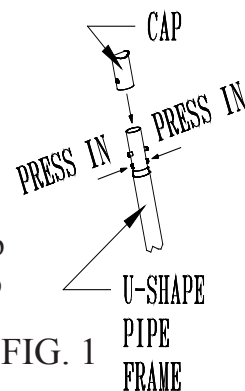

FIG. 1
2. Locate the four metal pipe (Horizontal Beams) for the left and right support frame sections of the pool. Also locate the four U-Shape Pipe frames. Each end of the U-Shape pipe will have a Cap to be installed. Locate the 8 Pipe Caps and install, push the buttons in as you insert the Cap onto the pipe end. Look through the holes in the Cap as you install it and slightly rotate the Cap until the buttons align with the holes and pop up, locking the Cap onto the pipes end. FIG. 1 Now place two of the U-Shape pipes on each side of pool near the rectangular flaps.